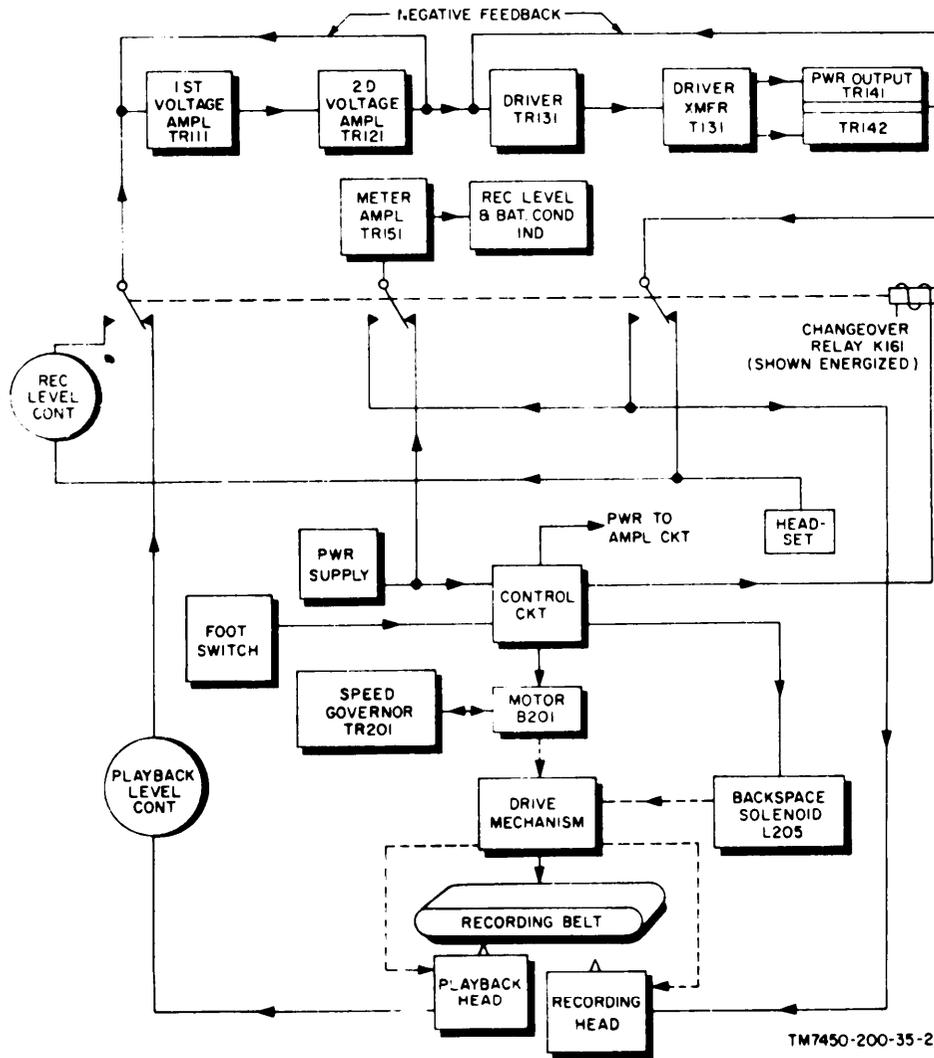

Figure 2. Shunt method of calibration, using incoming rf signal.
a. *General.* The signal path for calibrating the test set by the shunt method of calibration is shown in figure 1. Basically, a self-contained impulse generator is used as a calibrating signal to produce a full-scale meter indication. The setting of six-step signal attenuator AT702 control determines the amount of rf and intermediate frequency (if.) attenuation inserted into the signal path. After the meter is calibrated for a full-scale meter indication, the impulse generator is deenergized. The magnitude of the rf signal under measurement (fig. 2) is then directly read from the meter scale.. taking into account the setting of the six-step signal attenuator control. The following subparagraphs, based on placing the main unit calibration switch in the SHUNT CAL position, give a brief functional description of the calibrating signal path.
- (1) *Repetition rate generator and driver V703.* Repetition rate generator V703A is a resistance-capacitance type oscillator which produces a fixed output of approximately 70 cycles per second (cps). This output, increased in amplitude by impulse generator driver stage V703B, is fed to impulse generator G701.
- (2) *Impulse generator G701.* The impulse generator produces a broadband signal by the transient discharge of a direct-current (dc) voltage on a short length of coaxial line, working into a 50-ohm impedance load. A mercury switch, operated by impulse generator driver stage V703B, opens and closes the coaxial line pulse-forming circuit.
- (1) *Coaxial relay K702.* With this relay in its energized condition, the output of the impulse generator is coupled through a set of relay contacts to 20-db fixed attenuator AT701.
- (2) *Fixed attenuator AT701, 20-db.* This fixed attenuator, coaxial in structure, attenuates the signal from the impulse generator by 20-db and couples the signal to de-energized coaxial relay K701. With this 20-db fixed attenuator in the calibrating signal path, the output of tie impulse generator agrees with the engraved numerals on the front-panel coarse and fine impulse generator controls.
- (3) *Coaxial relay K701.* With this relay in its deenergized condition, the output of 20-db fixed attenuator AT701 is coupled through one set of relay contacts to six-step signal attenuator AT702.
- (4) *Six-step signal attenuator AT702.* This cartridge-type attenuator has a flat response to the complete frequency range of the test set, from 150 kc to 1,000 mc. Six steps of attenuation are provided by the use of coaxial networks, which result in a low-voltage standing wave ratio (swr) at any input frequency. Each attenuator section is a resistive T-pad, in which the series elements are rod resistors, and the shunt element is a disk-type resistor. The geometry of the inner and outer conductors of each attenuator section produces a 50-ohm line impedance at the input and output of each network. Two settings of the six-step signal attenuator control provide zero attenuation of the calibrating signal. The four remaining settings provide 10-, 20-, 40-, or 60-db loss in the rf signal path; additional attenuation of 10 or 20-db is inserted into the if. signal path (fig. 2). This loss is introduced by operation of relays in the if. step attenuator, which are controlled by
4. Shunt Method of Calibration Using Incoming Rf Signal (fig. 2)
Figure 2 is a block diagram which shows detailed operation of the equipment after the meter has been calibrated to produce a full-scale deflection by using the output of the impulse generator as a calibrating signal source. Setting the front-panel calibration switch to the SERIES CAL& OPER-ATE position changes the circuit connections from those described in paragraph 3.
- (1) The calibrating signal voltage from impulse generator G701 has a path of continuity through coaxial relay K702 to the input of 20-db fixed attenuator AT701. The calibrating signal is decreased in amplitude by a ratio of 10 to 1 (20-db), and is applied through coaxial relay K701 to the input of six-step signal attenuator AT702.
- (2) The incoming rf signal applied to SIGNAL INPUT jack J705 (fig. 2) is effectively removed from the input to the test set. Therefore, no incoming signal from the antenna or coupler can affect the meter indication when the test set is being calibrated by the shunt method.
b. *Series Calibration and Operate Condition* (fig. 2 and 3). The following two circuit conditions exist with the calibration switch set at the SERIES CAL & OPERATE position.
- (1) An incoming signal, applied from the antenna or coupler through SIGNAL INPUT jack J705, has a path of continuity through coaxial relay K701 to six-step signal attenuator AT702.
Figure 4 shows the threefold functioning of the six-step SIGNAL ATTENUATOR DB control. This block diagram is based on placing the front-panel calibration switch in the SERIES CAL & OPERATE position (fig. 2). The s h a f t of the front-panel SIGNAL ATTENUATOR DB control drives three separate switches, which operate circuits as described below: